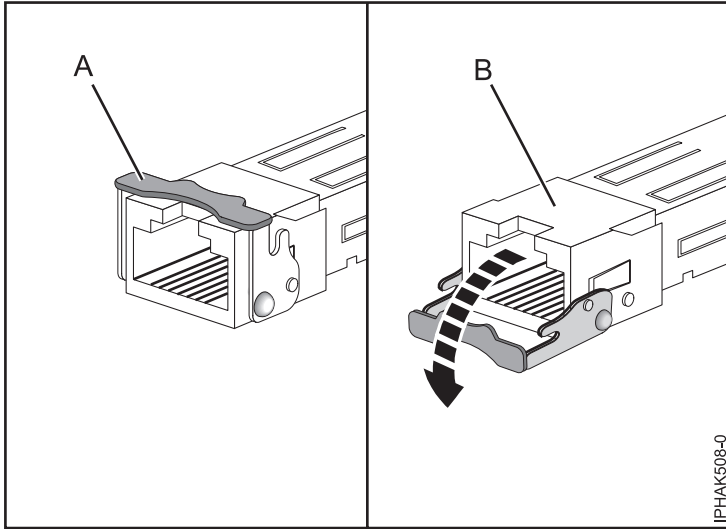

Figure 32. Removing SFP transceivers from adapters
Note: Some Ethernet or Fibre Channel adapter FRUs require the removal of the small form-factor pluggable (SFP) transceivers (if present) in order to remove the tailstock. With the card lying flat on a static-protective surface, open the latch (A) by rotating it down and away from the card as shown in Figure 32 on page 41. Slide the transceiver (B) out of the adapter hardware. Repeat for the other transceiver.